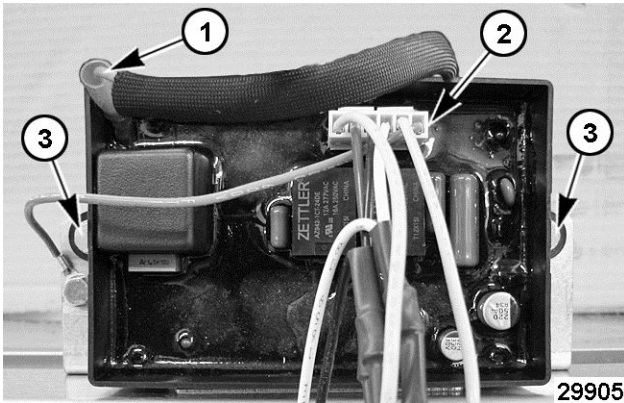

Fig. 11
2. Disconnect ignitor cable (1, Fig. 11) and wire harness connector (2, Fig. 11).
3. Remove screws (3, Fig. 11) securing ignition module to the mounting bracket.